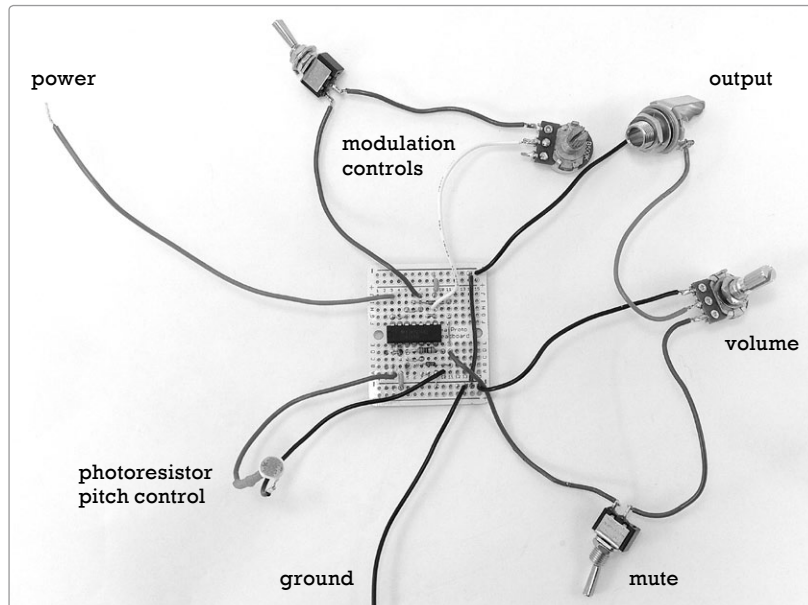

FIGURE 16-22: *The modified Space Invader Synth circuit, ready to be grafted to its new master*
- a. Omit the power supply—the switch, 9-volt battery clip, and LED power indicator. Don't build it in Step 1 or install it in Step 13. Instead, cut, strip, and tin two 6-inch lengths of insulated wire. For clarity, I've used red and black wires. Run one of these wires (I've used red) to pad 3 on the synth PCB. Run the other wire (I've used black) to the synth's lower ground rail, at the foot of column 13 (see Figure 16-22). We'll connect these to the Bleepbox sequencer PCB's power and ground rails in a few steps.
Your Bleepbox-ready Space Invader Synth is good to go! Figure 16-22 shows the results.